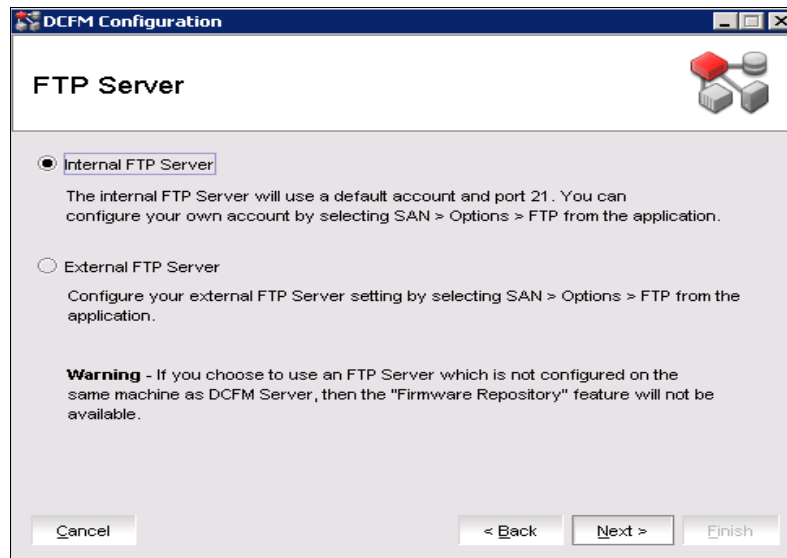

Figure 9-5 FTP Server Dialog box
10. Select Internal FTP Server or External FTP Server on the FTP Server panel and click **Next** (see Figure 9-5).